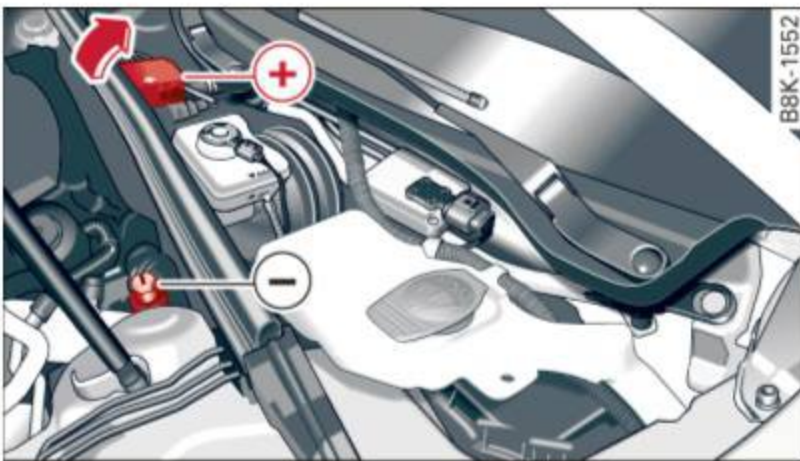

Fig. 187 Engine compartment: Connectors for charger and jumper cables
- ▶ Open the cover on the positive pole ⇒ fig. 187.